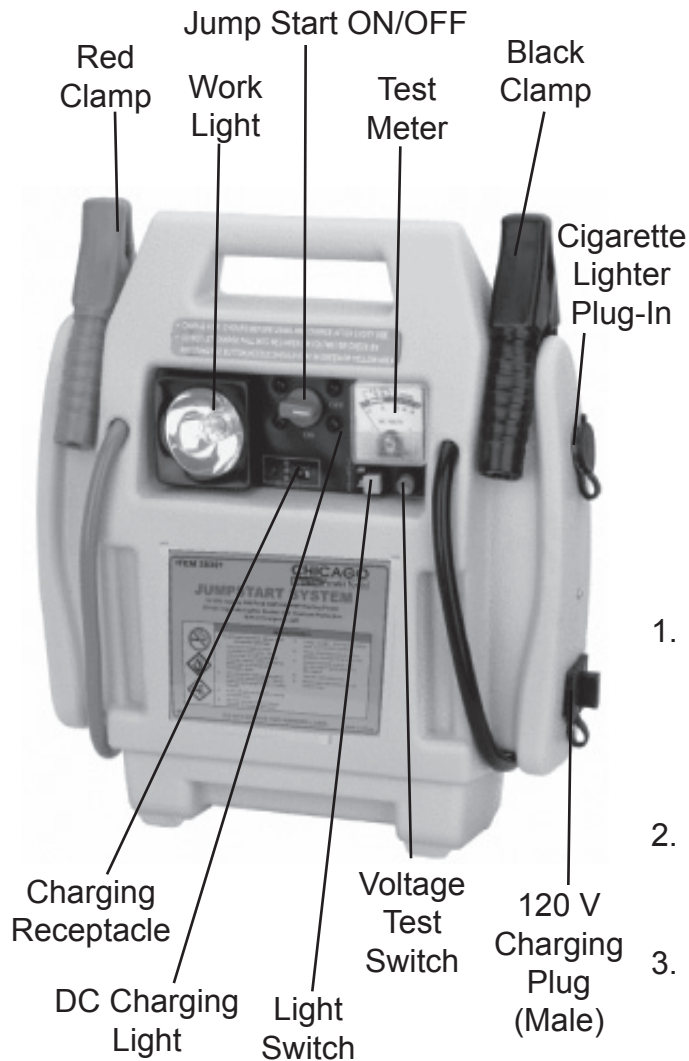

Figure 1
16. **The ON/Off switch (See FIGURE 1, next page) regulates power to the clamps only. Keep it in the “Off” position except when jumpstarting.**
WARNING! The ON/Off switch (See **Figure 1**) regulates power to the clamps only. Keep it in the “Off” position except when jumpstarting.
Warning!! The ON/Off switch (See **FIGURE 1**) regulates power to the clamps only. Keep it in the “Off” position except when jumpstarting.